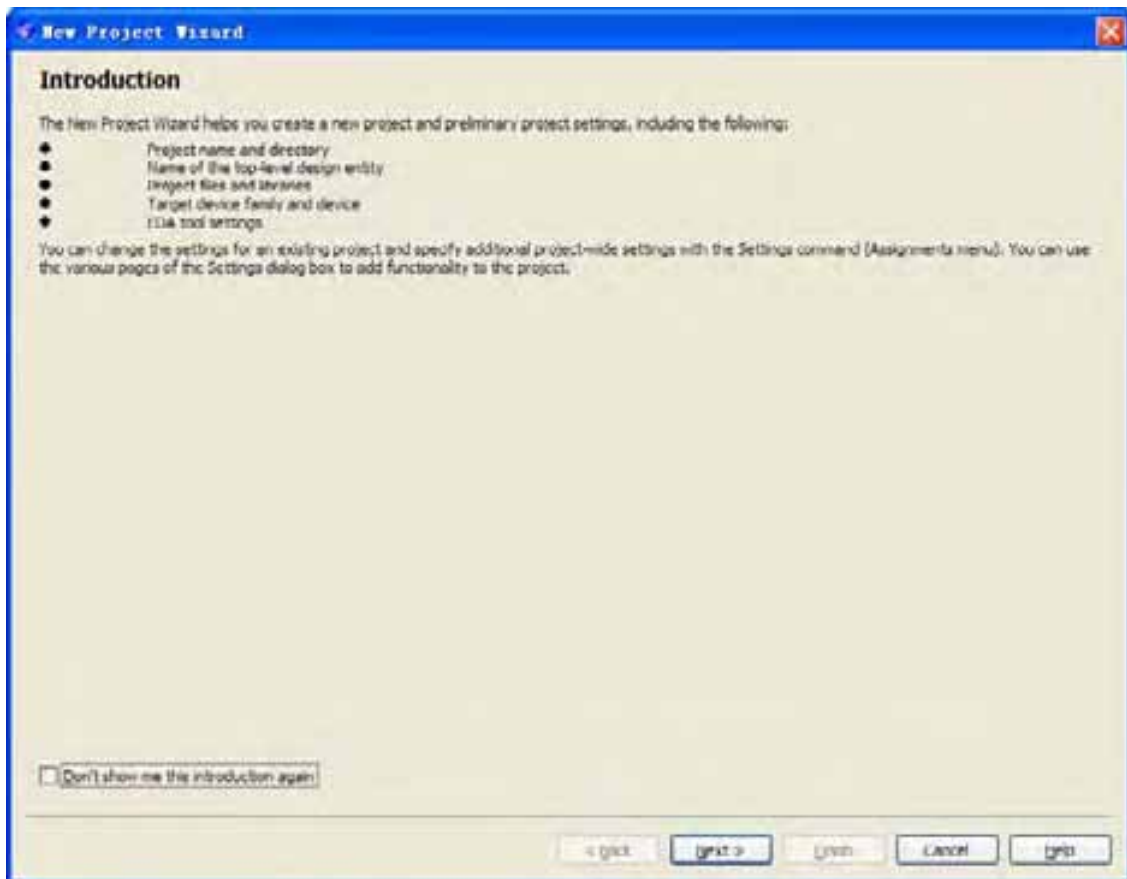

Figure 6-8 New Project Wizard introduction
1. In the Quartus II software, select **File > New Project Wizard**. The Introduction page opens, as shown in **Figure 6-8**.